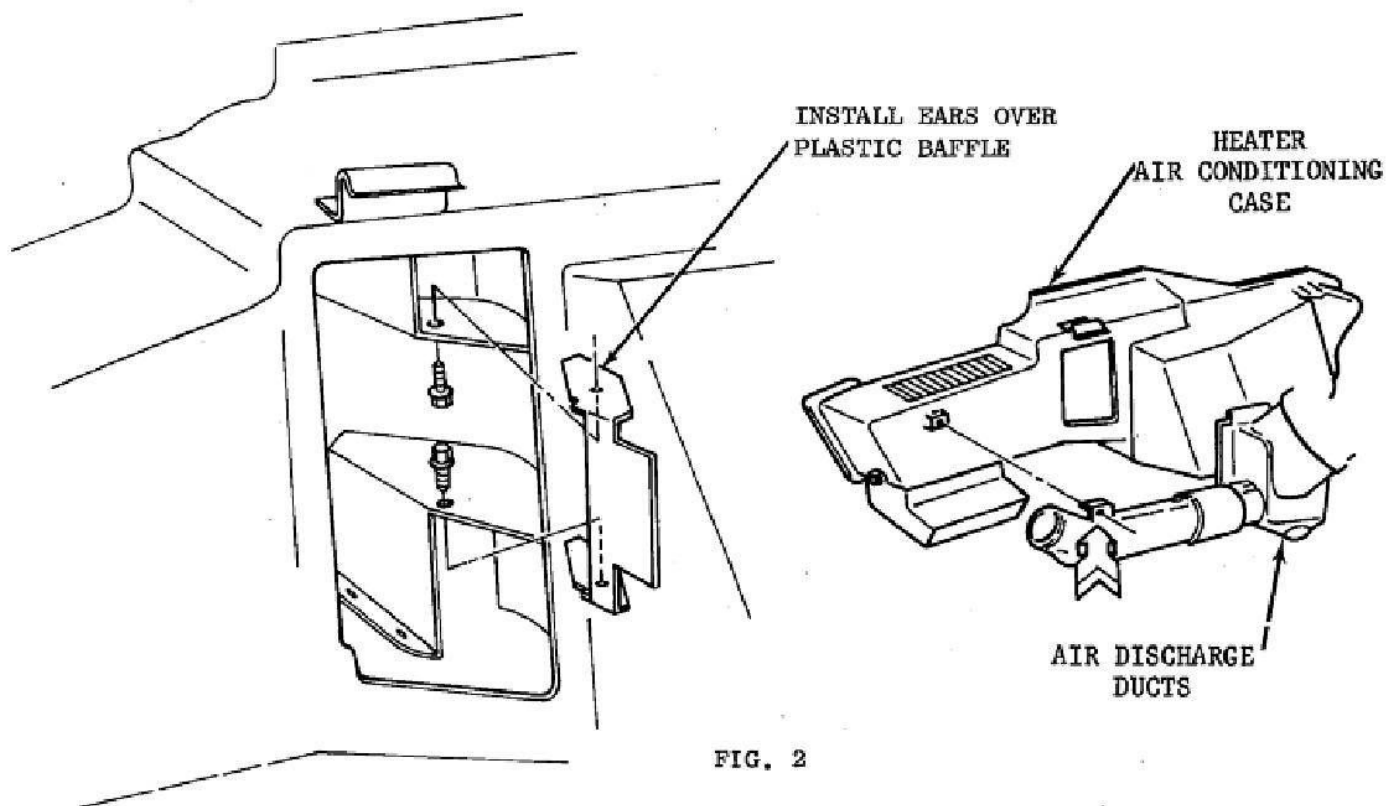

FIG. 2
5. Install the fabricated baffle over the existing bi-level baffle, as shown in Figure 2, using two self-tapping (#10 -- 16 x 5/8) washer hexhead screws. Start self-tapping screw into fabricated bracket for easier installation.